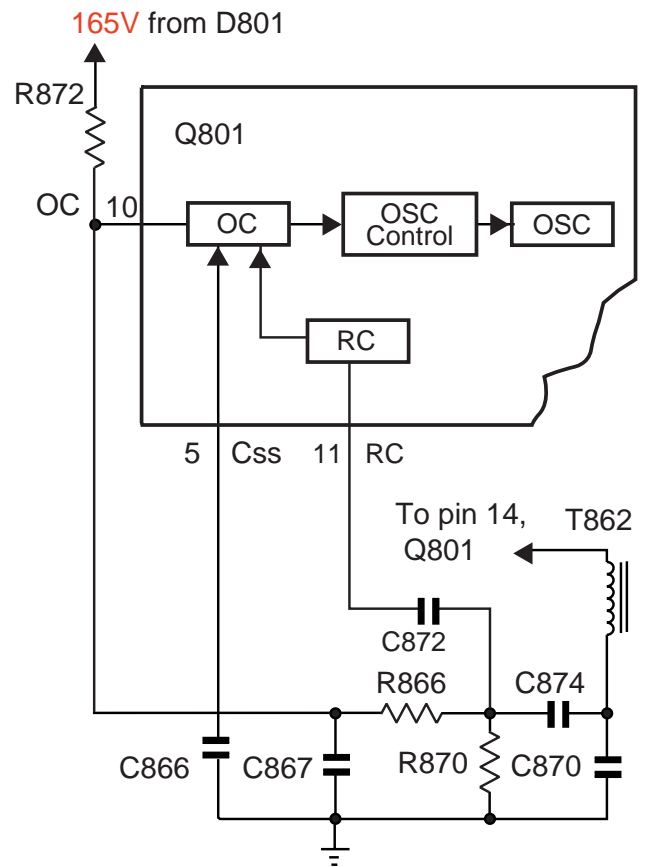

Figure 10
Figure 10 is the schematic diagram for the over current protection and soft start circuits. The over current detect (OC) senses excess current in the LC series resonant circuit. As current in the LC series resonant circuit increases, a voltage develops at the over current protect (OC) terminal pin 10. Resistor R870 and C874 detect the current flow through the LC circuit. Resistor R866 samples the voltage and applies it to pin 10. Capacitor C867 is a filter to reduce ripple. Depending on the input voltage on pin 10, the over current protect responds in one of two ways:
Still referring to Figure 10. At start-up, the soft start is engaged by capacitor C866 on pin 5, soft start (Css) terminal. While capacitor C866 charges, the switching frequency increases to reduce surge current through the MOSFETs. Once C866 is fully charged, the switching frequency goes to its normal operating frequency (approximately 70-80 kHz).